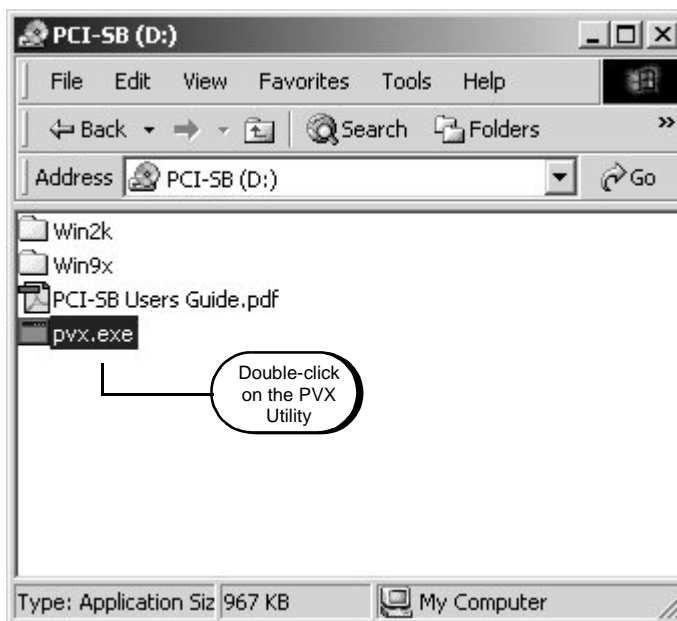

FIGURE 40. Pointing and Clicking on the PVX Utility
2. Double-click on the **PVX.exe** file on the CD-ROM, as shown in Figure 40.